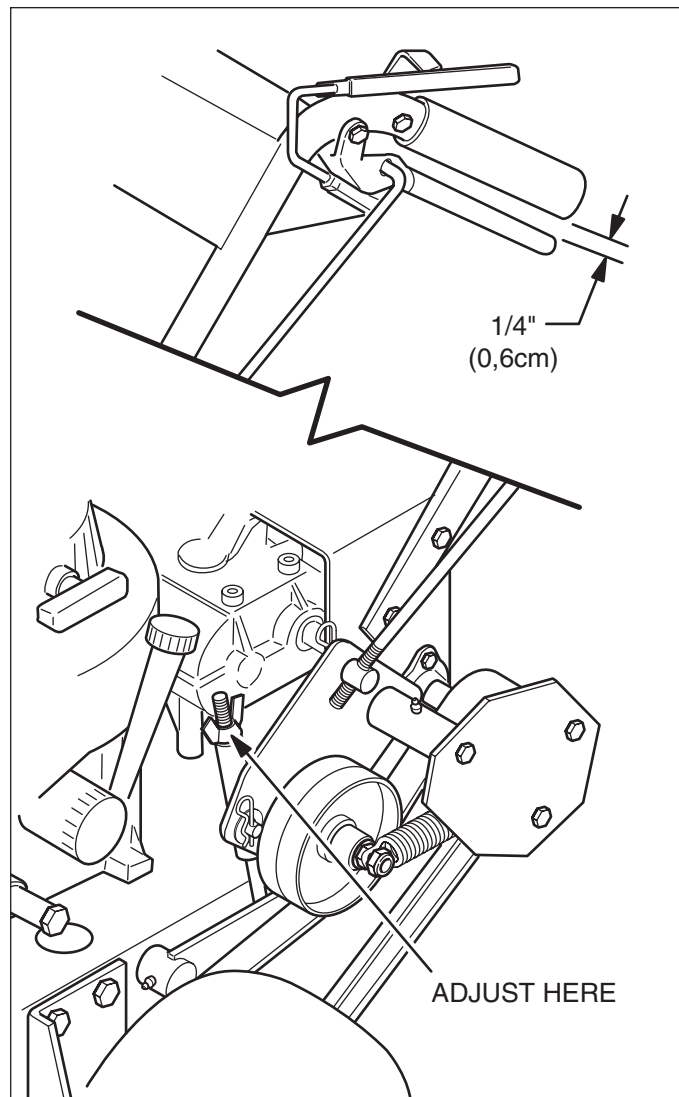

Figure 11. Brake Adjustment
When the levers are fully engaged (squeezed), there should be 1/4" (0,6cm) of clearance in between the handle bars and brake handles (see Figure 11).
1. Turn the wing nut (figure 11) to adjust the distance between the handle bars and steering levers.